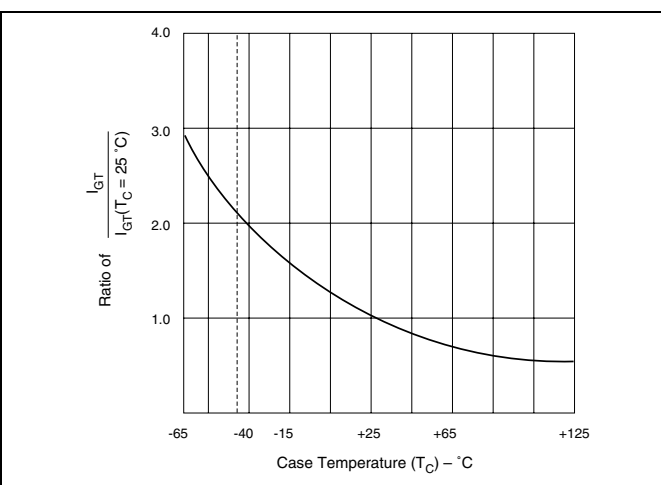

Figure E2.11 Normalized DC Gate Trigger Current for All Quadrants versus Case Temperature
- (7) See Figure E2.11 for I_{GT} versus T_C .